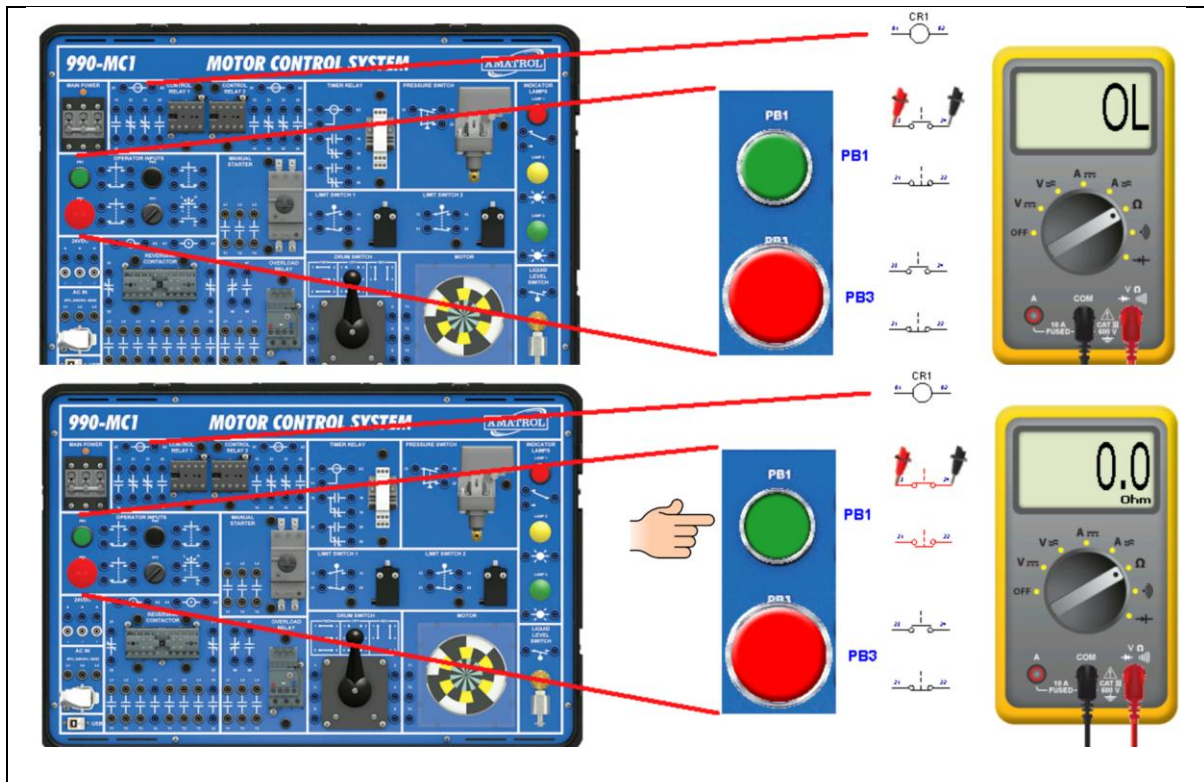

Figure 6. Checking the resistance of a pushbutton.
5. Click on the resistance scale (rotary dial) of the Multimeter, as shown in Figure 6.